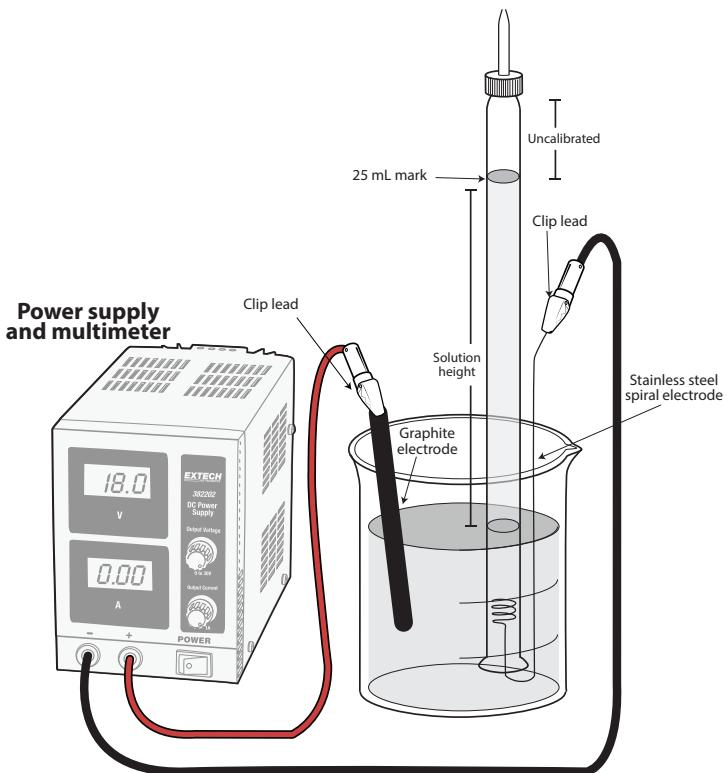

Figure 2. Electrolysis Apparatus
2. You will set up the electrolysis assembly to electrolyze water and collect hydrogen gas in your buret. Oxygen gas is generated at the graphite electrode and allowed to escape into the atmosphere. Figure 2 shows selected parts of the assembled apparatus as it should appear at the instant the electrolysis begins.
- Connect the (-) terminal from the multimeter to the spiral electrode. Connect the (+) terminal from the multimeter to the graphite electrode. Be sure you are collecting the hydrogen gas at the spiral electrode! Do NOT put the graphite electrode into the solution in the beaker just yet. Refer to Figure 2.
- Put the attached graphite electrode into the beaker as shown in Figure 2. Now adjust the current knob to get a reading of about 0.2 Amps.